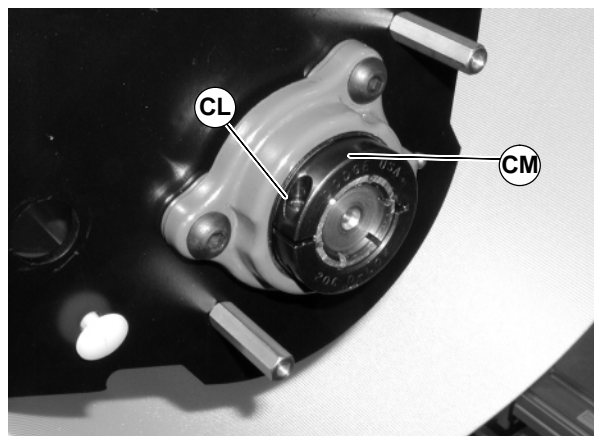

Figure 80
9. Loosen clamp screw (CL of Figure 80) and remove bearing collar (CM).